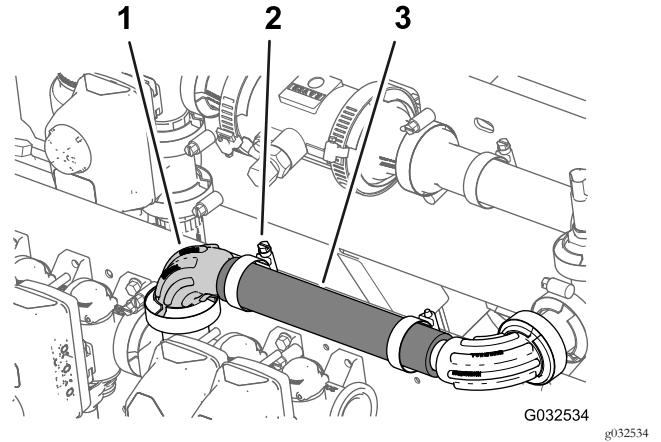

Figure 90
1. Assemble the hose (1 x 8-1/2 inches) over the 90° flange fitting (1 inch) as shown in Figure 90.
2. Secure the hose to the flange fitting with a hose clamp (Figure 90).